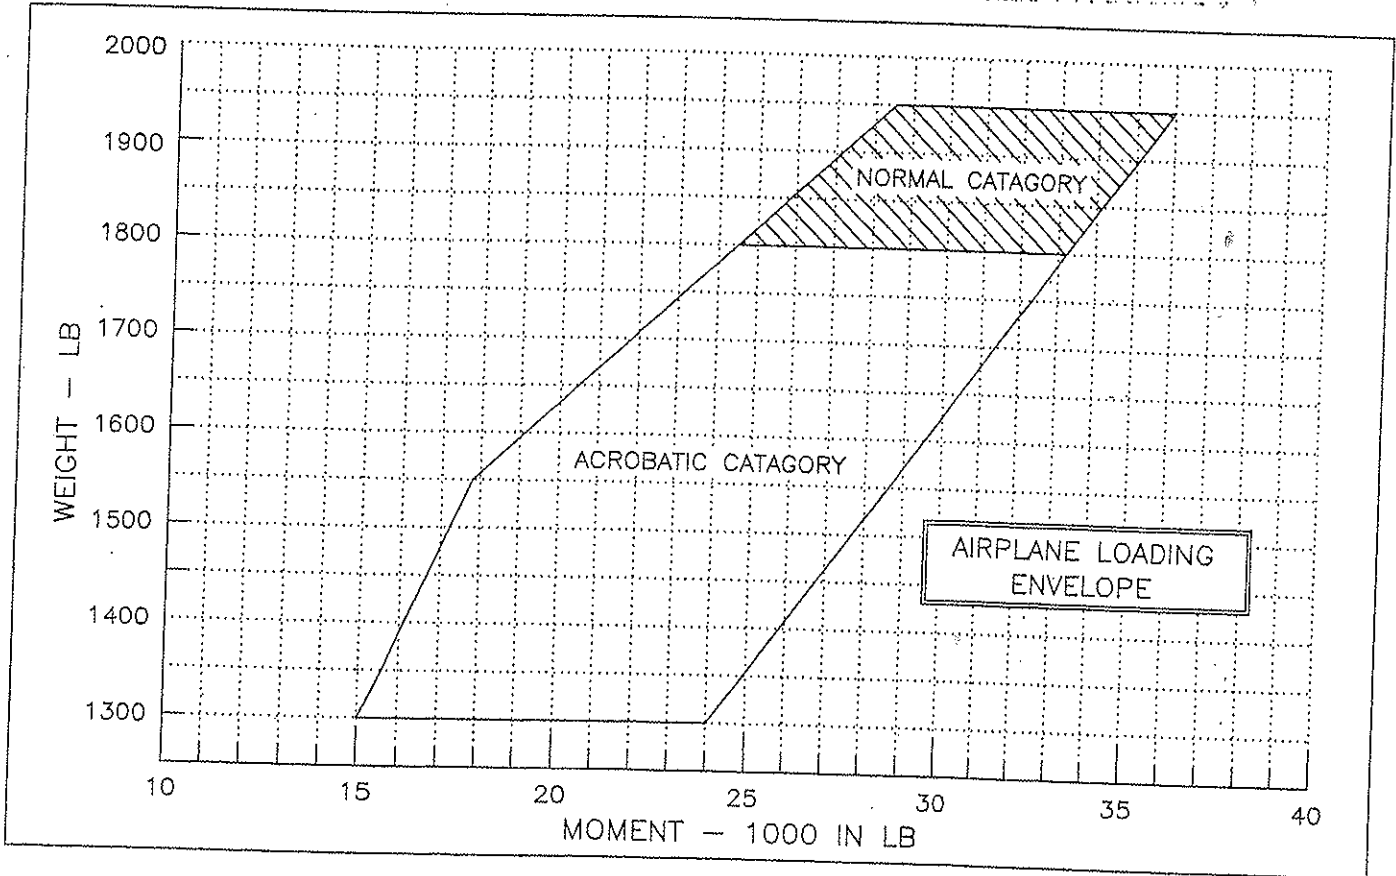

FIGURE 5-3 SUPER DECATHLON WEIGHT and BALANCE
5. Using the Flight Envelope, Figures 5-3, determine that the gross takeoff weight and moment are within limits.